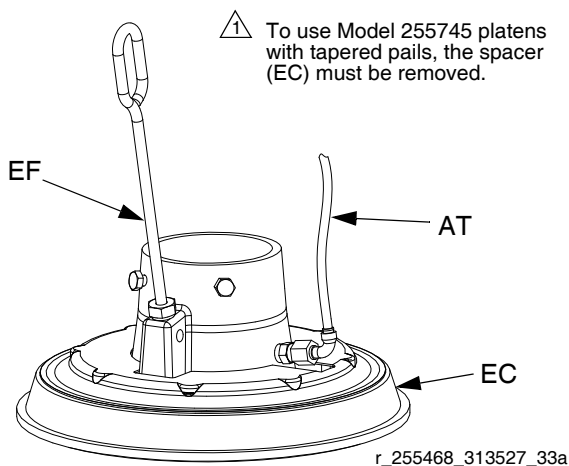

FIG. 14
See FIG. 14. If the platen does not come out of the pail easily when the pump is being raised, the air assist tube (F) or check valve may be plugged. A plugged valve prevents air from reaching the underside of the plate to assist in raising it from the pail.
3. Clear air assist tube (AT) in platen. Clean all parts of valve and reassemble.
4. Remove bleed stick (EF) from platen. Push bleed stick through bleed relieve ports to remove material residue.